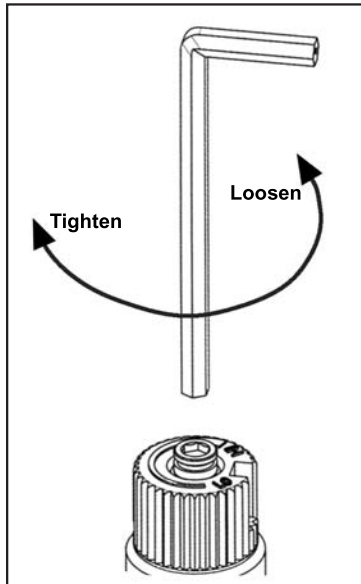

Figure 8: Removing valve screw.
b) Insert a $\frac{5}{32}$ " or 4 mm Allen wrench into the hexagonal key-way of the screw (see Figure 8), rotate it counter-clockwise until it is free and extract it.
e) Using the Allen wrench as shown in Figure 8, rotate the screw clockwise until a torque of 9 inch lbs. **WARNING!** Do not over tighten the screw. It is recommended that you grip the wrench by the short side.